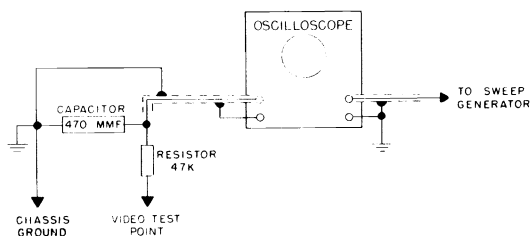

Fig. 5 Oscilloscope Connections
5. Remove the VTVM and connect the vertical input of the oscilloscope to point "B" see Fig. 8 using the isolation network as shown in Fig. 5.